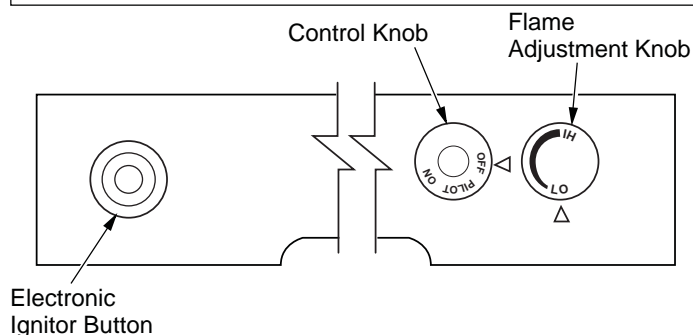

Figure 29 - Control Knob and Ignitor Button Location
3. Press in and turn control knob clockwise to the OFF position (see Figure 29).
4. Wait five (5) minutes to clear out any gas. Then smell for gas, including near the floor. If you smell gas, STOP! Follow "B" in the safety information, page 15. If you don't smell gas, go to the next step.
5. Press in and turn control knob counterclockwise to the PILOT position. Press in control knob for five (5) seconds (see Figure 29).